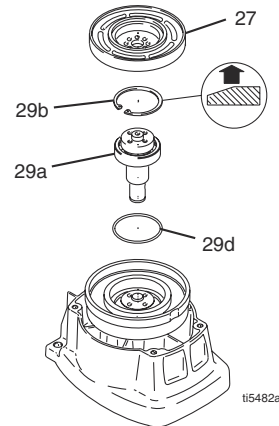

FIG. 6
6. FIG. 6. Remove retaining ring (29b).
6. FIG. 6. Check o-ring (29d) and replace if missing or damaged.